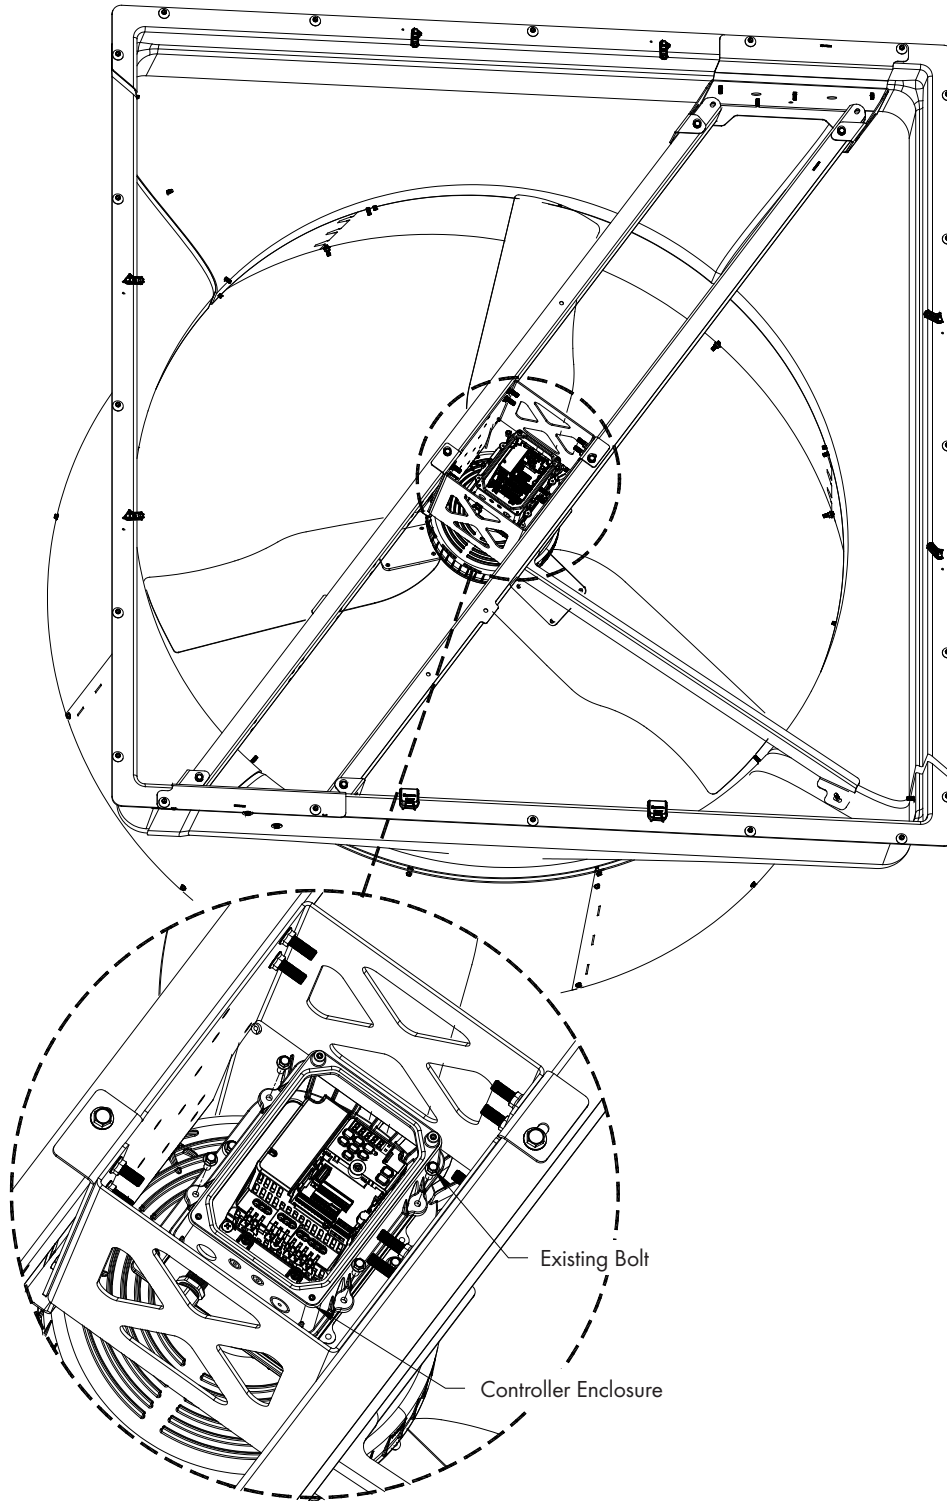

Figure 6
Replace the Controller Enclosure and secure it in place using the (4) Bolts that were removed in Step 3. See Figure 6.